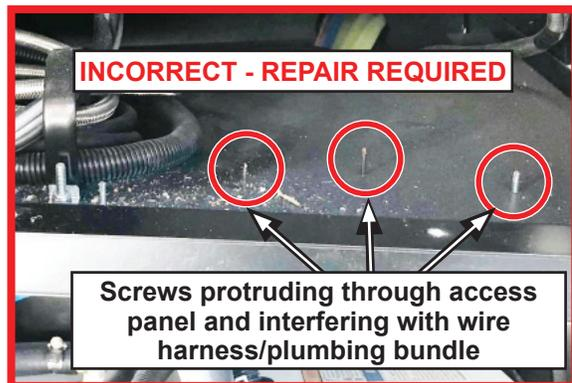

Figure 8
9. While performing the inspection on the wire harness/plumbing bundle, also check to see if there are any screws protruding through the access panel in areas where the wire harness/plumbing bundle would move when the slideout is retracted. See Figure 8 for an example. If this is the case, either relocate the mounted items to another location or cut the screws off flush and cover with sealant so that the wire harness/plumbing bundle does not snag while in motion. Use flat rate code 6092-12 if no other repairs are required involving this slideout.